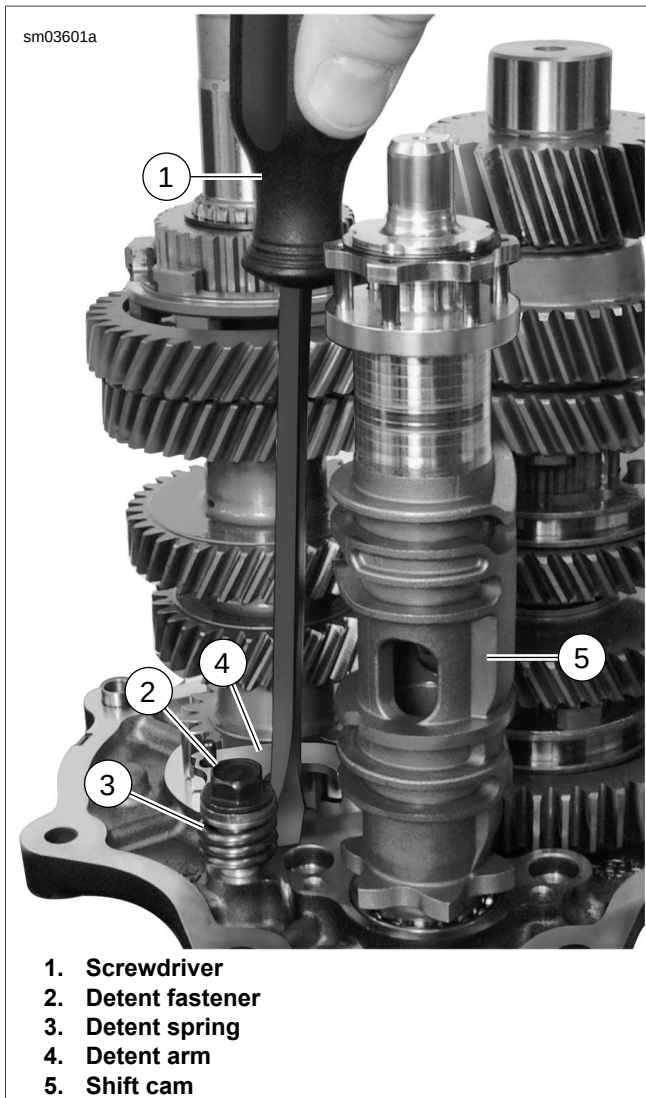

Figure 6-14. Detent Assembly
- See Figure 6-14. Insert screwdriver and gently pry back detent arm (4) to remove detent spring (3) tension from shift cam (5). Remove shift cam.
- If servicing detent assembly, remove detent screw (2), detent arm (4), sleeve and detent spring (3). Discard detent screw.